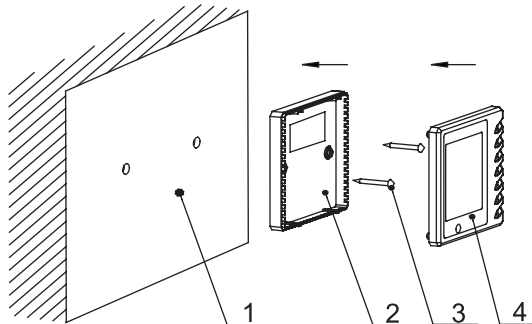

Fig.13 Installation of wired remote controller
- (1). Cut off power supply before install the electrical components, it is forbidden to carry out the installation with power on. (See Fig.13)
- (2). Get one end of the 4-core communication cable, put it through the rectangular hole on the base board on the wire remote controller;
- (3). Fix the base board of controller on the wall with M4x25 screw;
- (4). Plug the 4-core communication cable into the slot on the wired remote controller, then fix the controller panel with base board together.